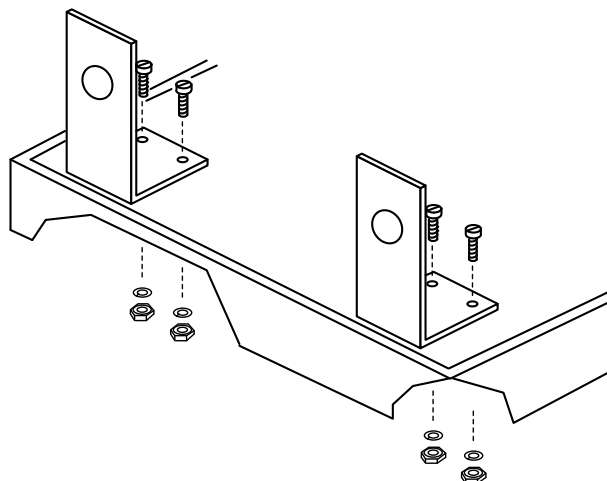

FIGURE 2
- ( ) Expand holes in the perfboard for the two (2) mounting brackets and install using #4-40 screws, lock washers, and hex nuts as indicated in Fig. 2.